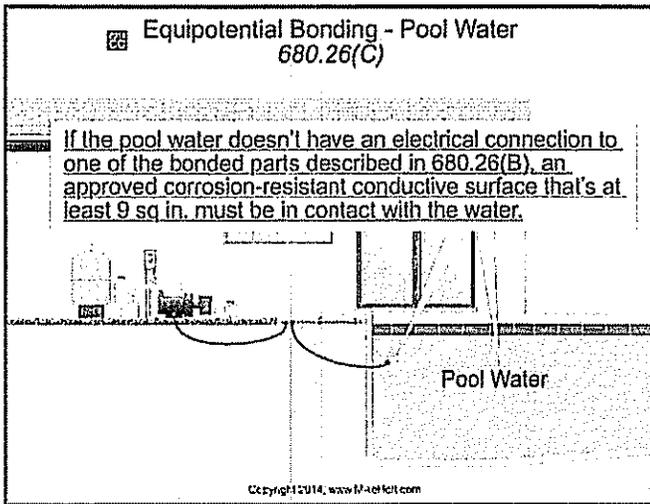

Figure 680-48
**(C) Pool Water.** If the pool water doesn't have an electrical connection to one of the bonded parts described in 680.26(B), an approved corrosion-resistant conductive surface that's at least 9 sq in. must be in contact with the water. The corrosion-resistance conductive surface must be bonded in accordance with 680.26(B), and be located in an area where it won't be dislodged or damaged or dislodged during normal pool usage. Figure 680-48